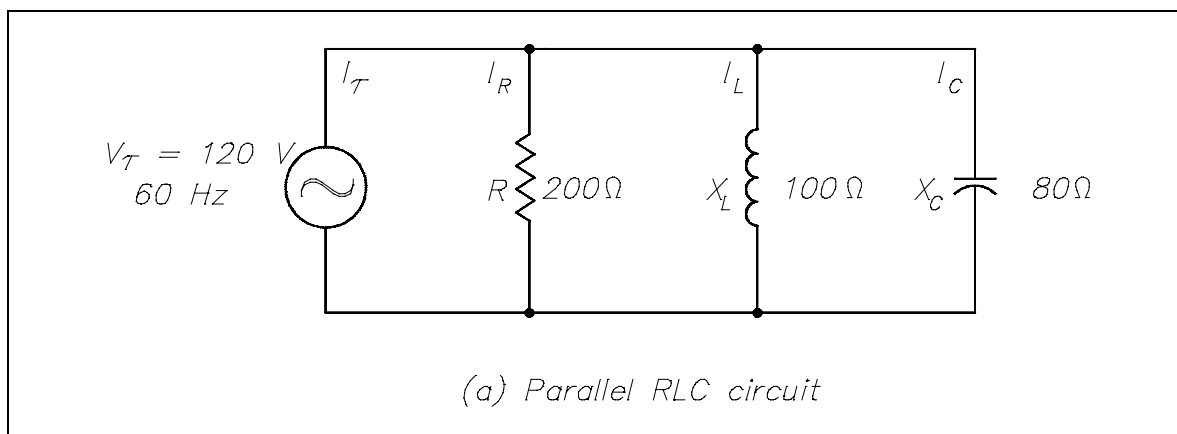

Figure 10 Simple Parallel R-C-L Circuit
**Example:** A  $200\ \Omega$  resistor, a  $100\ \Omega$   $X_L$ , and an  $80\ \Omega$   $X_C$  are placed in parallel across a 120V AC source (Figure 10). Find: (1) the branch currents, (2) the total current, and (3) the impedance.
If a capacitor and an inductor, each with negligible resistance, are connected in parallel and the frequency is adjusted such that reactances are exactly equal, current will flow in the inductor and the capacitor, but the total current will be negligible. The parallel C-L circuit will present an almost infinite impedance. The capacitor will alternately charge and discharge through the inductor. Thus, in a parallel R-C-L, as in Figure 10, the net current flow through the circuit is at minimum because of the high impedance presented by  $X_L$  and  $X_C$  in parallel.
| Figure 10 | Three-Phase AC . . . . .                | 18 |